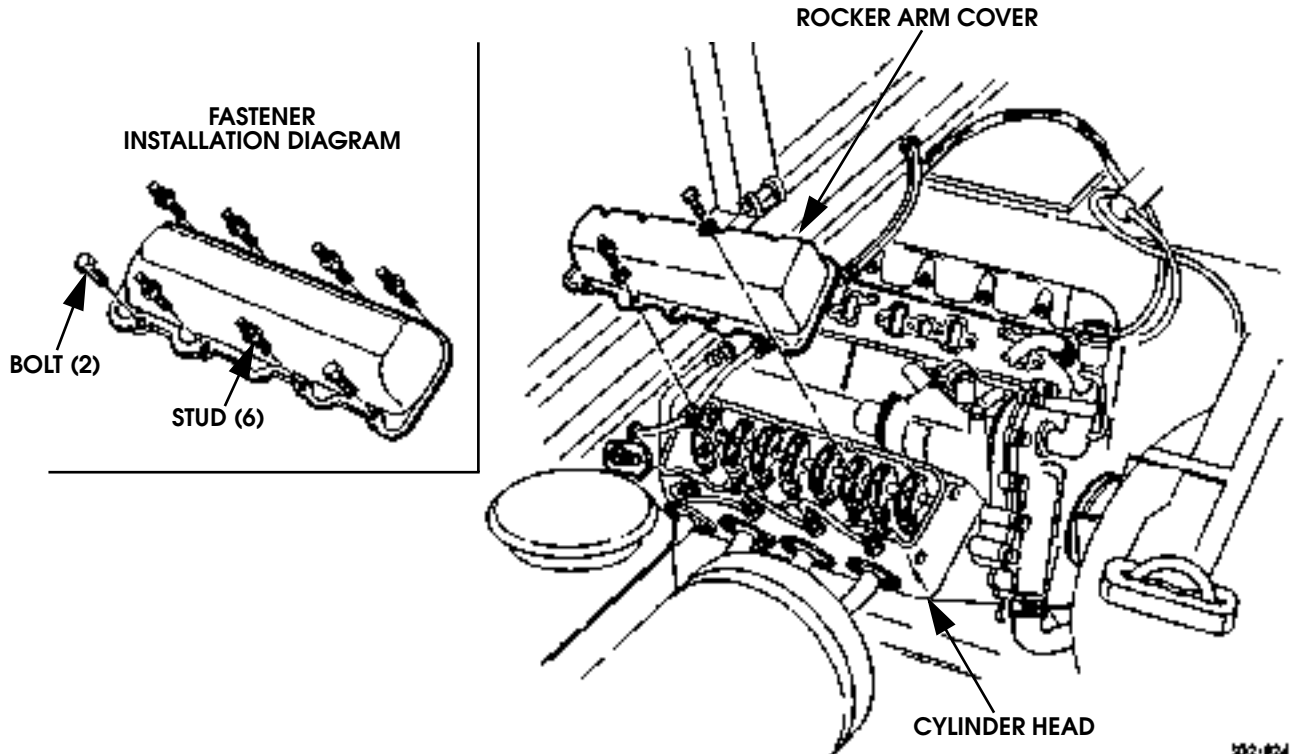

Figure 2-34: Rocker Arm Cover Removal/Installation (Right Side)
13. Remove studs and bolts attaching rocker arm cover to cylinder head (Figure 2-34).
5. Install rocker arm cover attaching studs and bolts (Figure 2-34). Tighten cover fasteners evenly to 13-25 lb-ft (18-34 N•m) torque. Start at center and work toward ends when tightening.
5. Install rocker arm cover attaching bolts and studs (Figure 2-34). Tighten cover fasteners evenly to 13-25 lb-ft (18-34 N•m) torque (Figure 2-35).